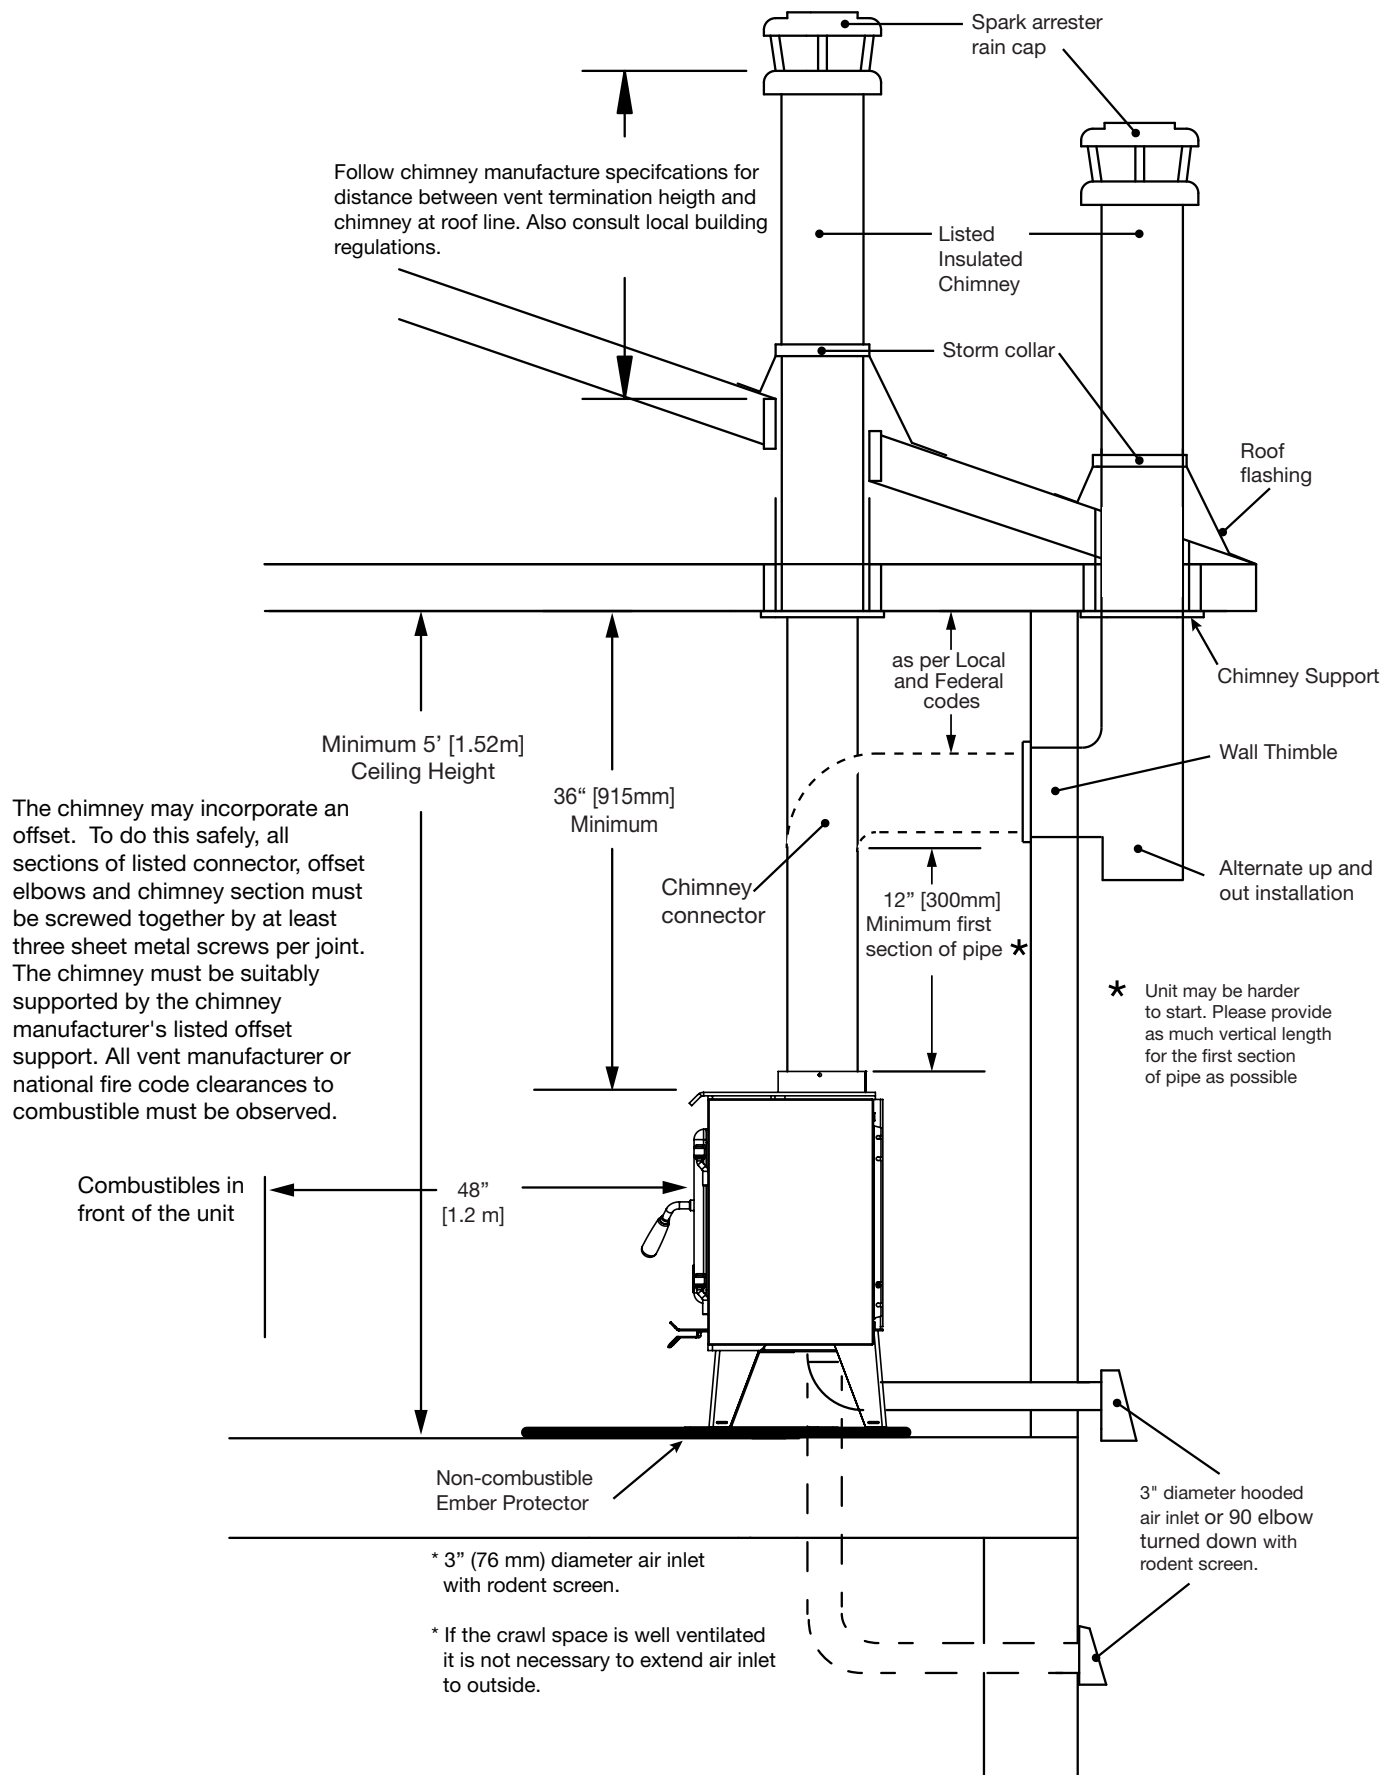

Figure 11: TN10 residential venting configuration.
- To draw outside air through the floor; Attach the outside air adapter to the underside of the stove. Mark then cut or drill a 3"(76mm) diameter or larger hole in the floor under the adapter. This hole must get its air from a ventilated crawl space or be extended with duct to the outdoors (Figure 11 on page 17. or Figure 12 on page 18)